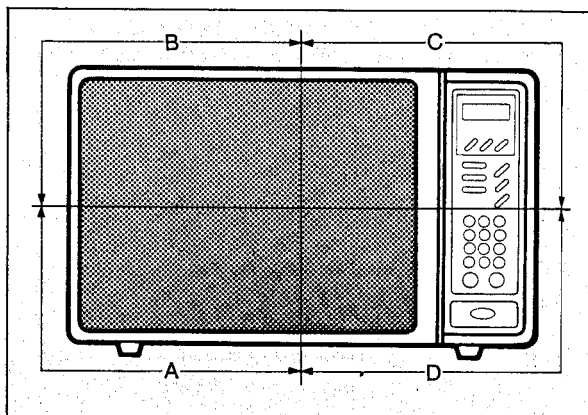

Fig. 30
- 1) To reduce the gap located on part "A". (See Fig. 30)
- c) check the gap as item 13.
- 2) To reduce the gap located on part "B". (See Fig. 30)
- c) Check the gap as item 13.
- 3) To reduce the gap located on part "C" and "D" (See Fig. 30)